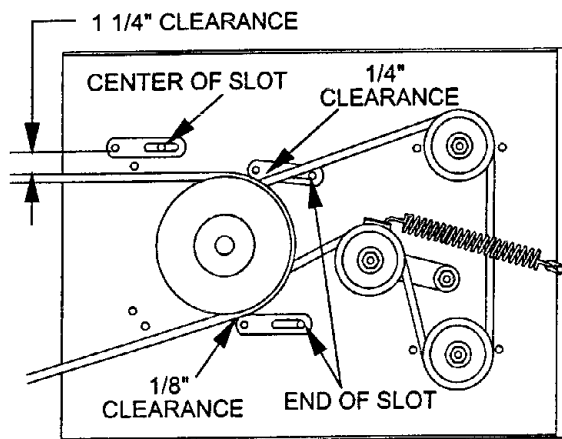

FIG. 13
- d) Check belt guides under the engine deck for proper adjustment (See Figures 13 and 14). Adjust as necessary. The *disengaged belt should not drag or fall off* pulley when guides are properly adjusted.